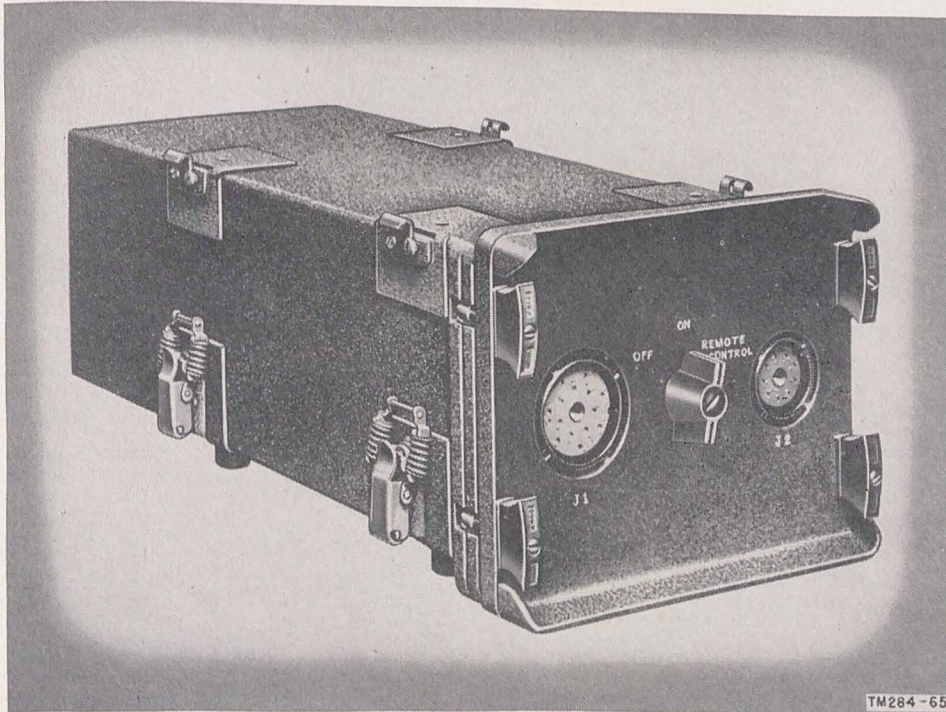

Figure 46. Case CY-590/GRC, front view.
- a.* CASE CY-590/GRC. Case CY-590/GRC is a battery box which can hold five 1.5-volt Batteries BA-403/U connected in series and one 90-volt Battery BA-419/U. The batteries must be procured separately. Two receptacles and a switch are mounted on the front panel of the battery box (fig. 46). Receptacle J-1 is used for interconnecting the battery box with Receiver-Transmitter RT-70/GRC. Receptacle J-2 is not used when the battery box is used with this receiver-transmitter. The switch is used to make or break the